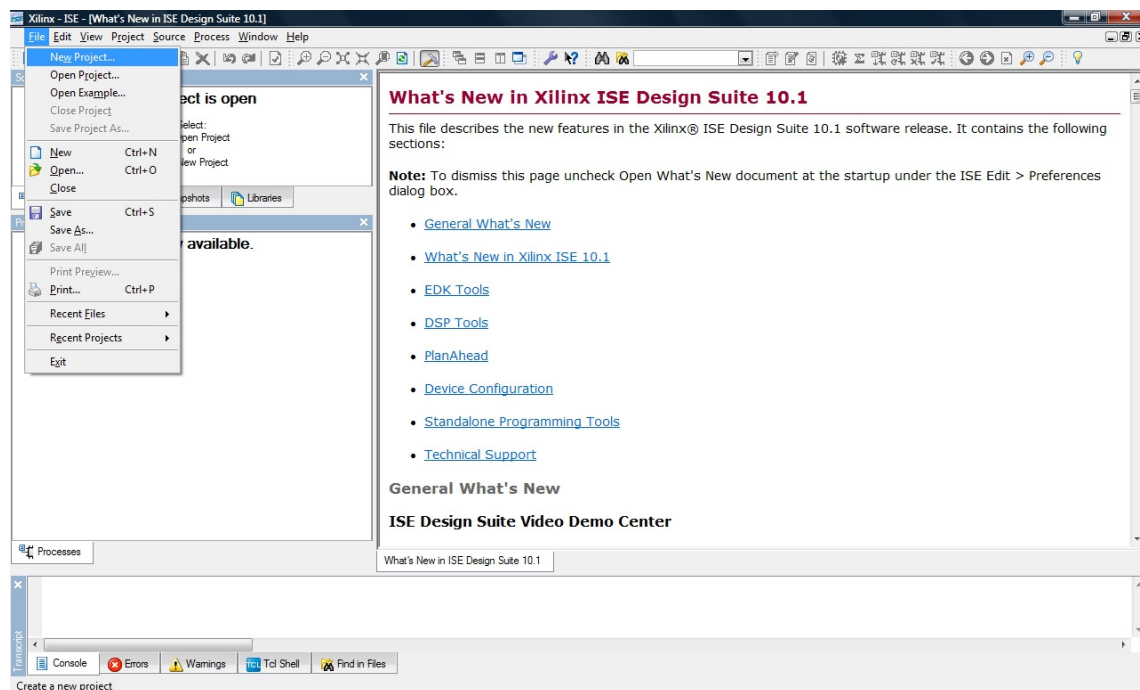

Figura 2.2
- File → New Project (Figura 2.2)